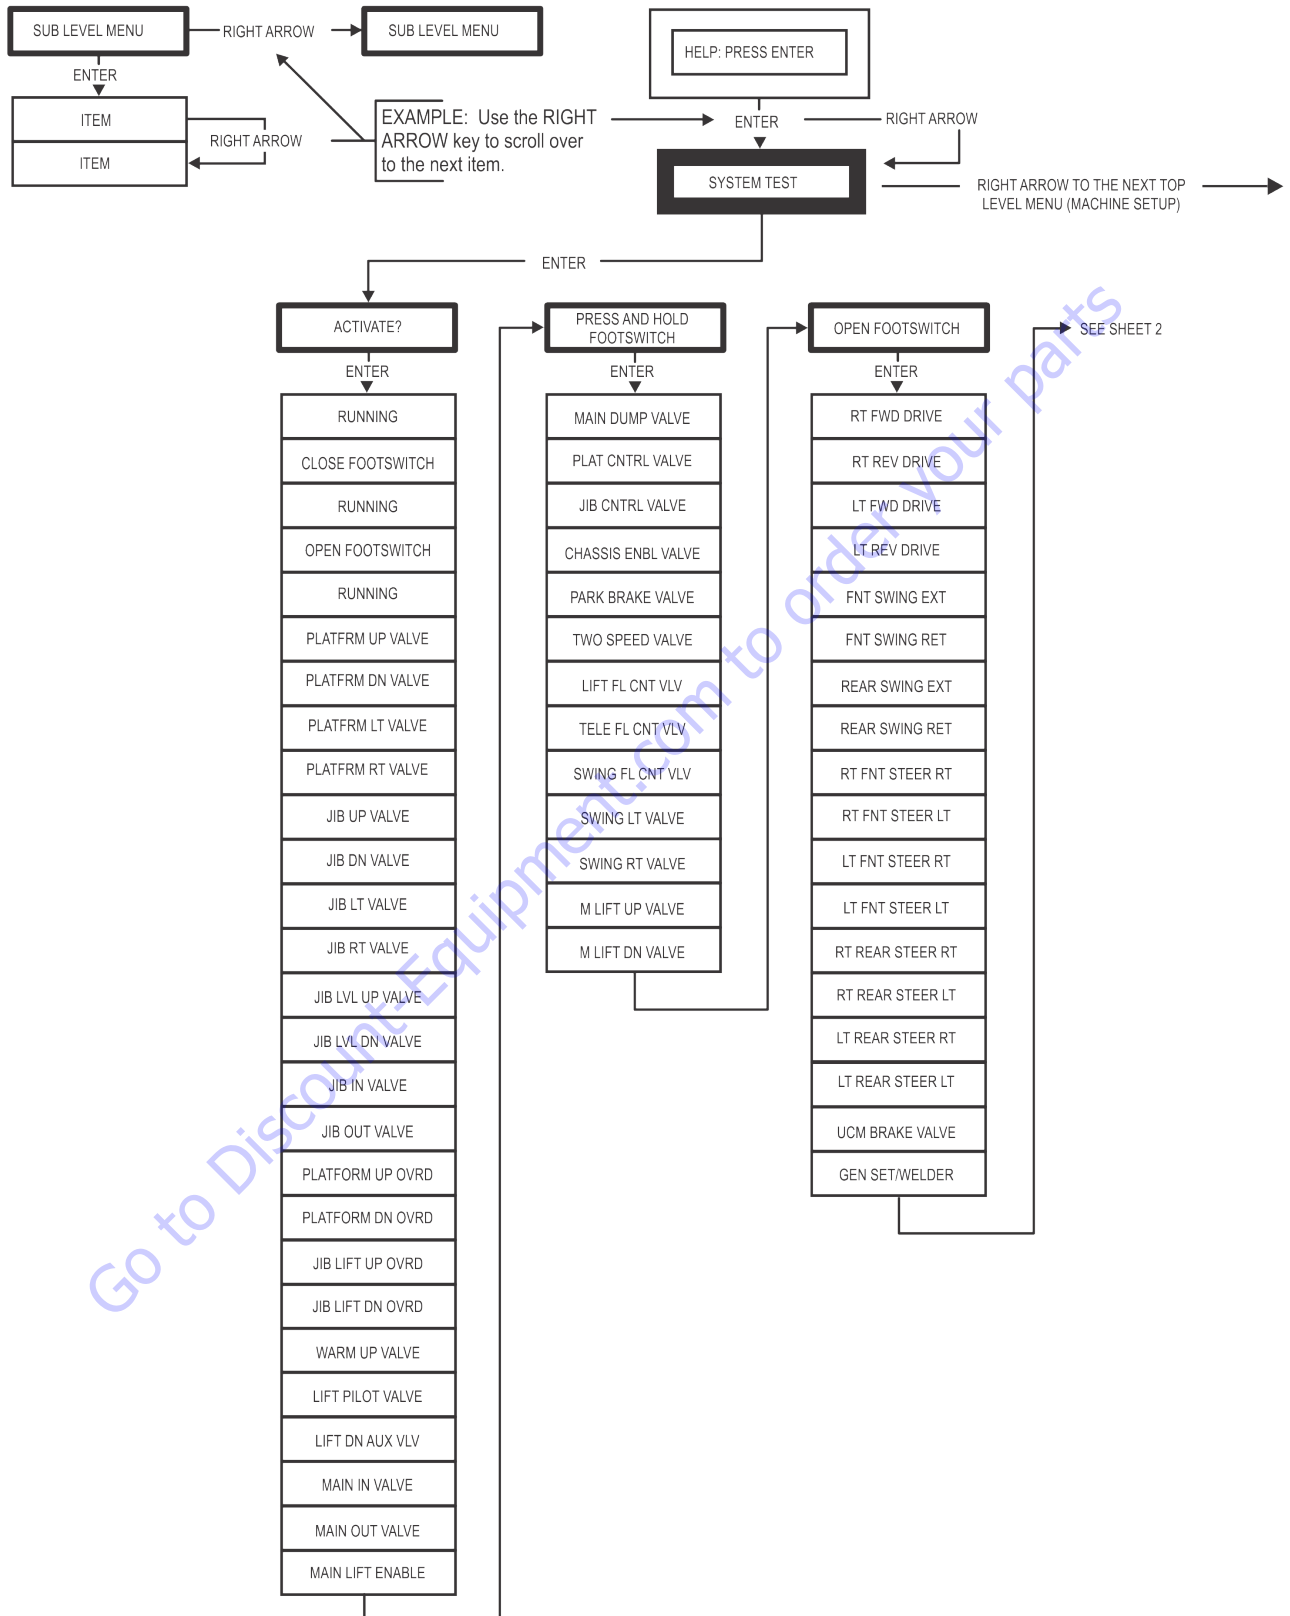

Figure 6-28. System Test Flow Chart - Platform Tests - Sheet 1 of 2
8. Follow the flow path in Figure 6-28., System Test Flow Chart - Platform Tests - Sheet 1 of 2 and Figure 6-29., System Test Flow Chart - Platform Tests - Sheet 2 of 2 and go through the component tests. Hit the ESC key during any part of the test to return to the main menu without completing all tests or wait until all tests are complete. During the TEST ALL INPUTS sequence, the analyzer allows control switches to be operated and shows if they are closed (CL) or open (OP).